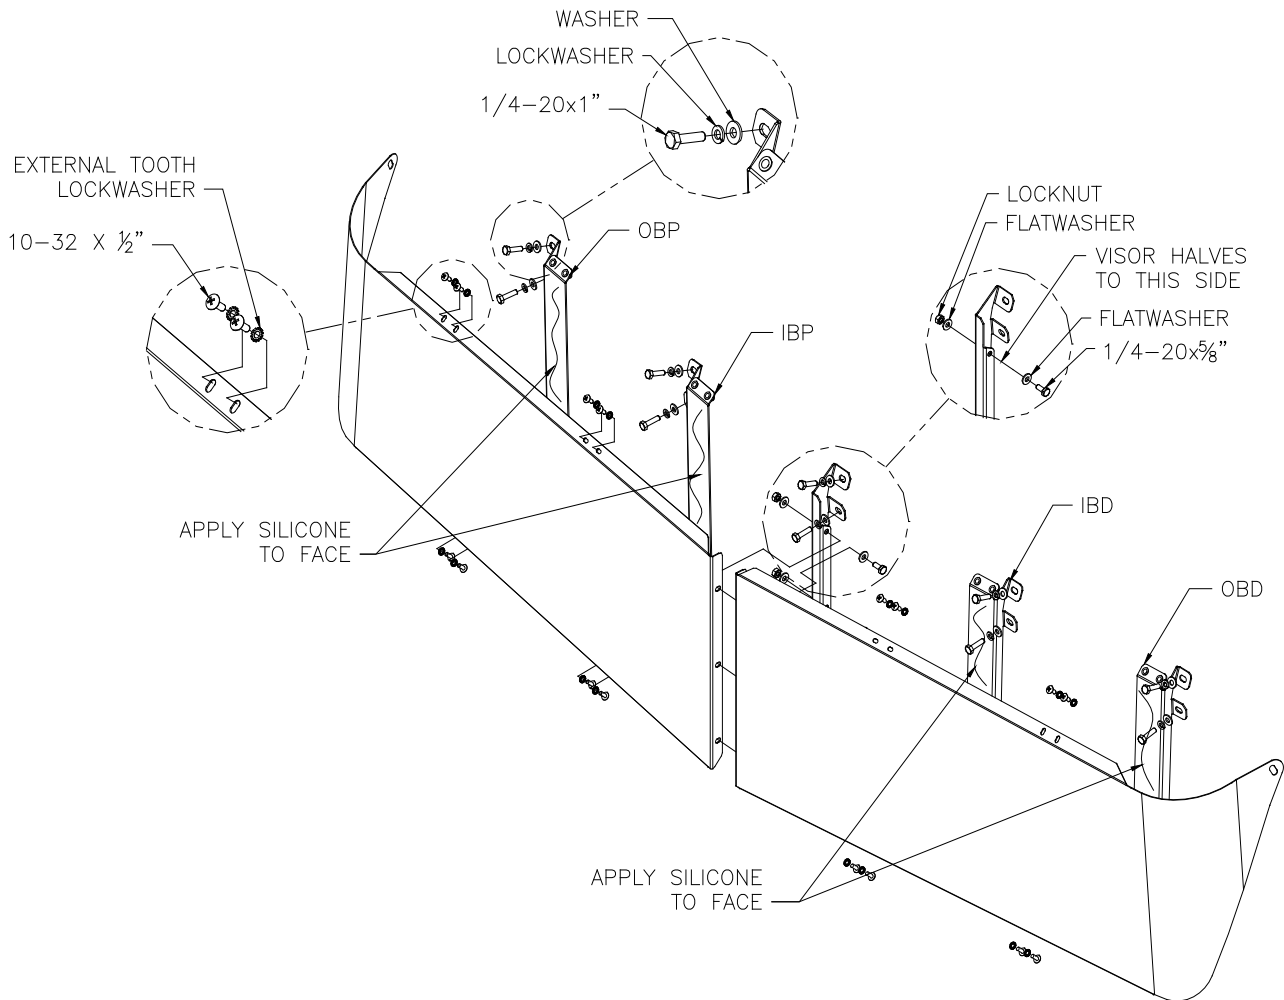

Fig. 1
3. Attach the brackets to the roof using the supplied ¼-20 x 1" hex head bolts, lockwashers and washers. (See Figure 1 on next page for bracket locations). Do not fully tighten. The brackets should be snug, but still moveable.